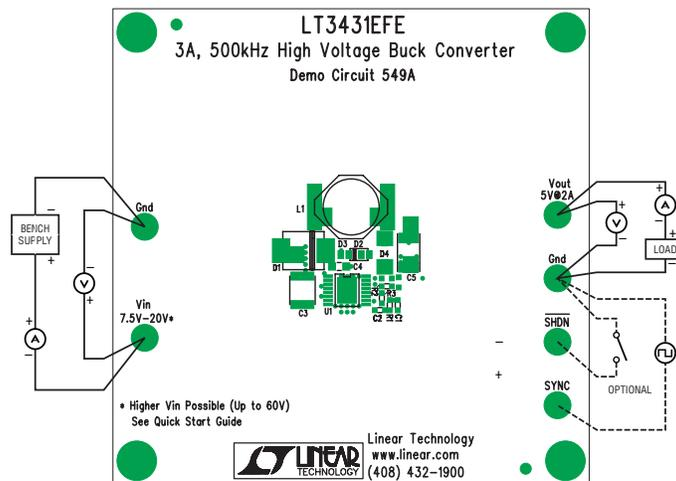

Figure 1. Proper Measurement Equipment Setup
Demonstration circuit 549 is easy to set up to evaluate the performance of the LT3431. Refer to Figure 1 for proper measurement equipment setup and follow the procedure below:
1. Connect the power supply, load, and meters shown in Figure 1.